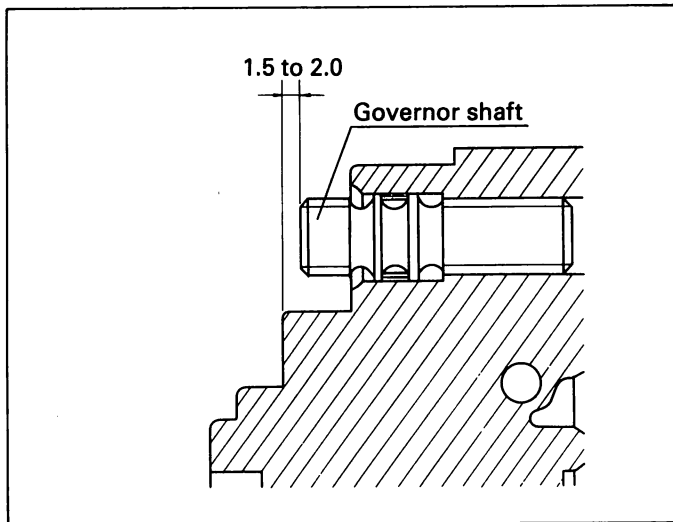

Fig. 81 Governor shaft: assembly position
4. Install the governor shaft (108) and O-ring (109) in the pump housing. Screw in the governor shaft so that the distance from the end face of the pump housing flange to the end face of the governor shaft is 1.5 to 2.0 mm (approx. 3 mm for an injection pump equipped with a load timer). (Figs. 81 and 82)